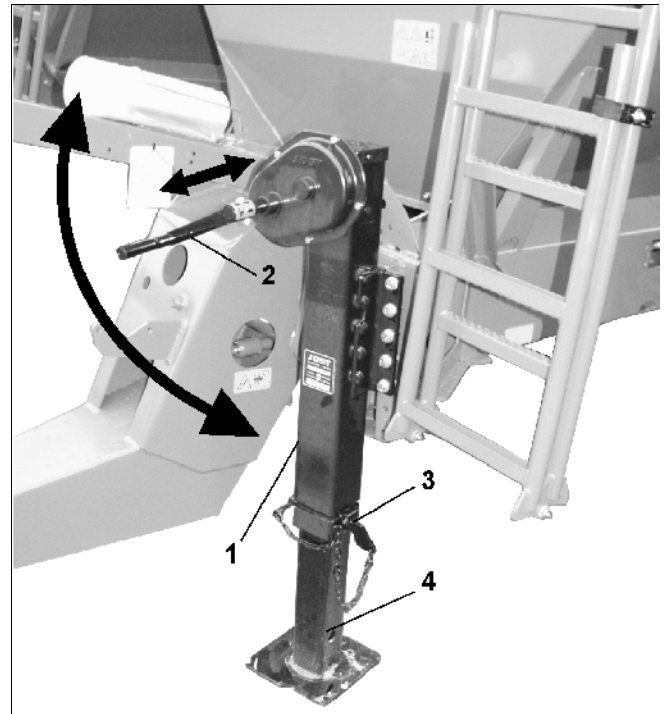

Fig. 10
- Use the hand crank (Fig. 10/2) to crank the support leg (Fig. 10/1) upwards until the stop.
- Pull the pin (Fig. 10/3) off the support leg.
- Insert pin in the lower hole (Fig. 10/4) and secure.